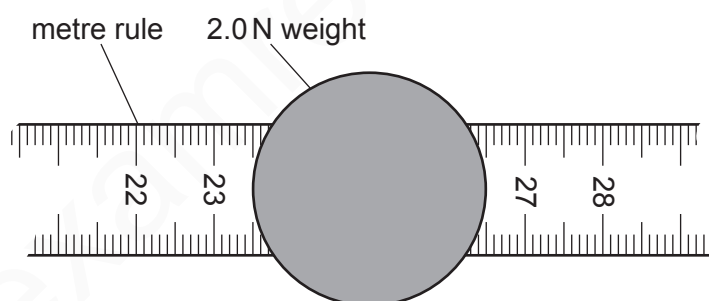
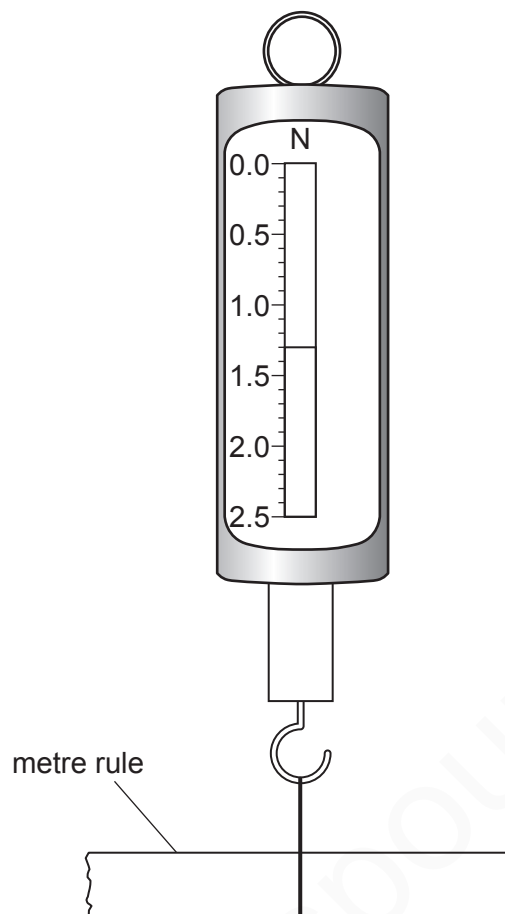

Fig. 1.2 (not to scale)
Fig. 1.3
- (a) The student places a 2.0 N weight at a distance l from the pivot. She then adjusts the height of the clamp holding the pivot so that the metre rule is horizontal. She reads the force F on the forcemeter. Fig. 1.2 shows the weight and the metre rule from above. Fig. 1.3 shows the reading on the forcemeter.
- (i) Calculate the value of l from readings taken from Fig. 1.2. Show your working clearly.
- (ii) Read the value F shown on the forcemeter in Fig. 1.3.